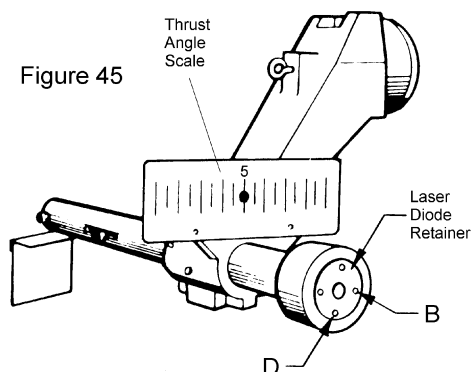

Figure 45
There are four Allen set screws on the laser diode retainer. (See Figure 45) The top and bottom set screws (D) control the vertical movement of the beam image. The left and right screws (B) control side-to-side movement of the beam image.